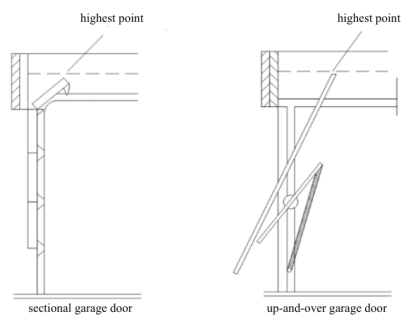

Fig. 1.
2. Determine the maximum height of the moving parts of the door (as shown in Fig. 1). Draw a horizontal line corresponding to this height so that it intersects the previously marked vertical line.